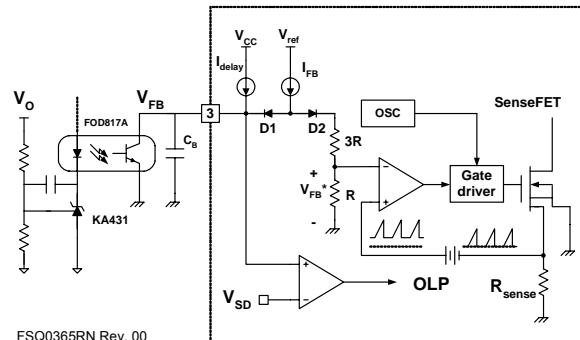

**Figure 20. Start-up Circuit**
**1. Startup:** At startup, an internal high-voltage current source supplies the internal bias and charges the external capacitor ( $C_a$ ) connected to the  $V_{CC}$  pin, as illustrated in Figure 20. When  $V_{CC}$  reaches 12V, the FPS begins switching and the internal high-voltage current source is disabled. The FPS continues its normal switching operation and the power is supplied from the auxiliary transformer winding unless  $V_{CC}$  goes below the stop voltage of 8V.